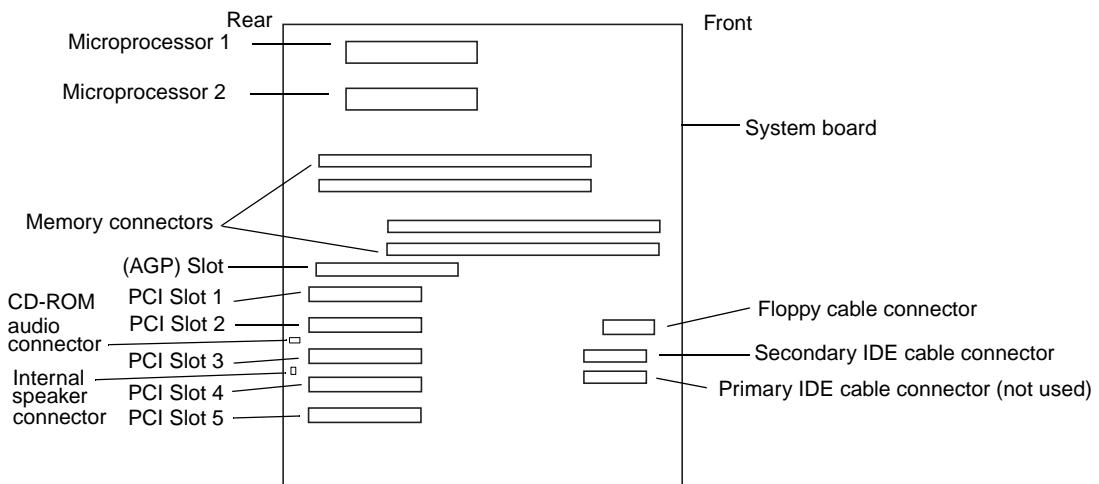

Figure 4-1 IBM 6868 System Slot Locations
The IBM 6868 system has six slots; one AGP slot and five PCI slots. Figure 4-1 shows the slot locations of the IBM 6868 system as viewed with the left side of the system off. The memory connectors are above the AGP slot. Other connectors and sections of the system board are shown as a reference.
- Figure 4-1 defines the slot numbers as assigned by IBM: